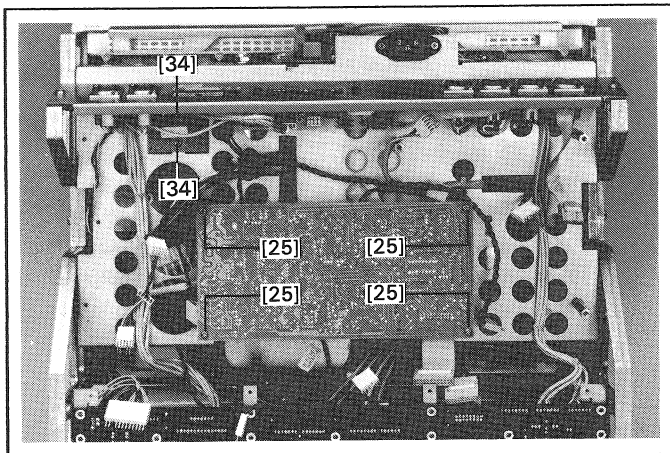

Fig. 12
- Unfasten 2 screws [34] (Fig. 12) of the TACHO BOARD and remove the cable connector. Slide out the board.